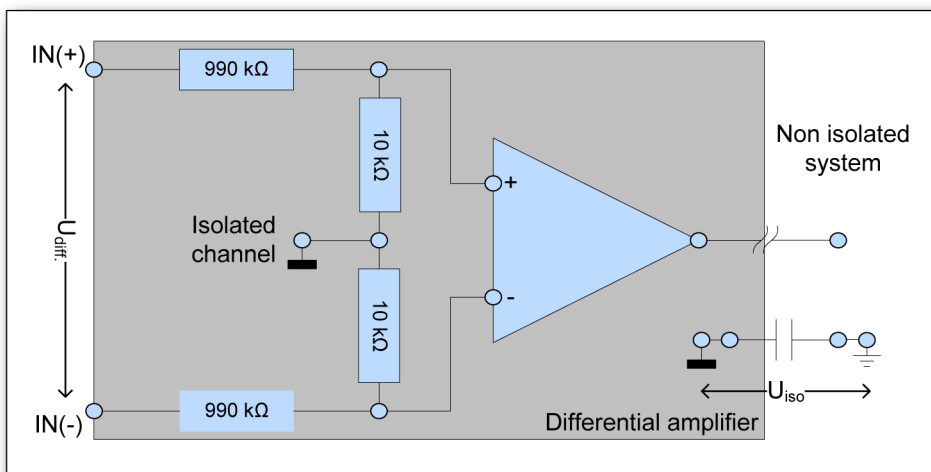
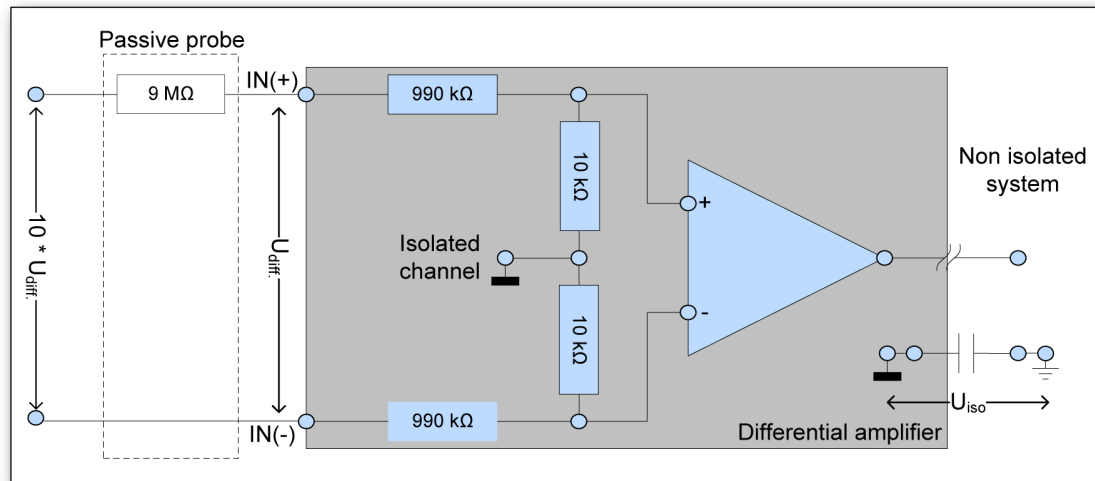

Figure 12.5: Isolated balanced input channel
Figure 12.6: Isolated balanced input channel with passive probe
- The isolated ground is not externally accessible as shown in Figure 12.5.
Looking at Figure 12.5 the GN610 specifies $U_{IN(+)}$, $U_{IN(-)}$ and $|U_{iso}| \leq 1 \text{ kV}$. Using a standard passive 10:1 probe in combination with the GN610 gives the situation as shown in Figure 12.6.